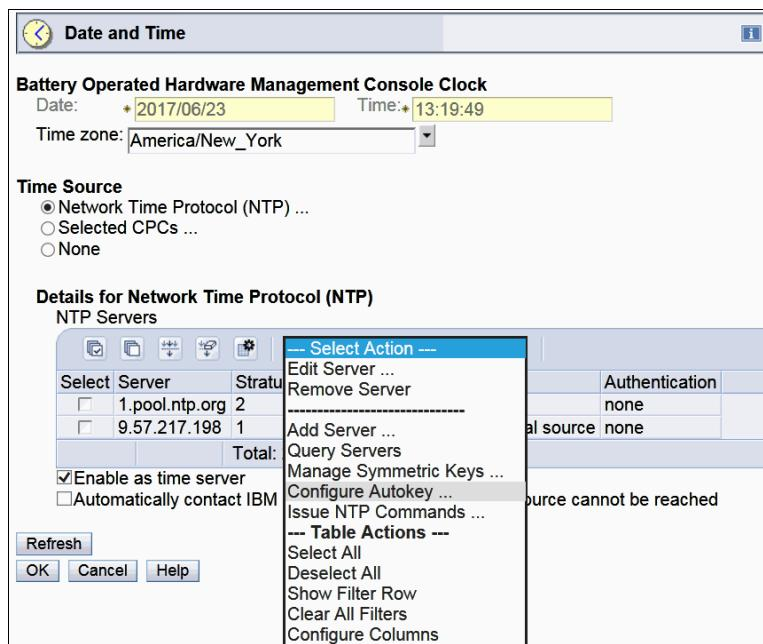

Figure 8-21 Configure Autokey
2. Click **Select Action** → **Configure Autokey** under the Details for Network Time Protocol (NTP) section (Figure 8-21).